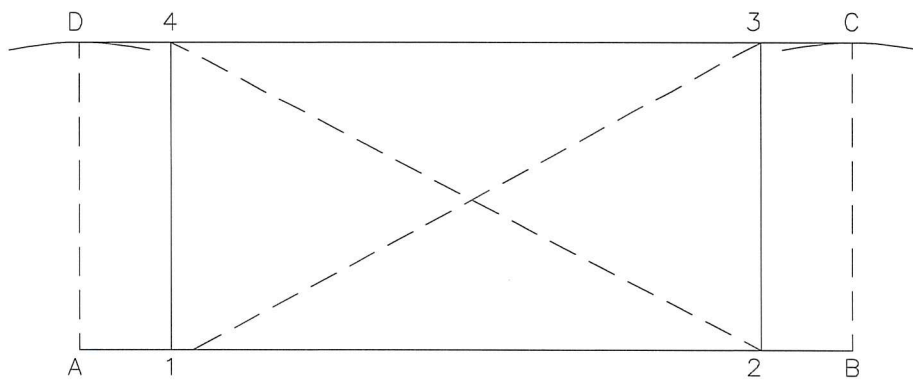

Figure 4. 12000 lb Lift, Chalk Line Layout
| Figure 4, Chalk Line Layout.....                 | Page 8  |
4. Refer to Figure 4. Once the location is determined, use a chalk line to mark base line A-B to locate one side of the lift. Use the width dimension to measure off the dimension A-D and B-C. Draw the arcs as shown. Draw the chalk line D-C tangent to the arcs to establish the other side of the lift.